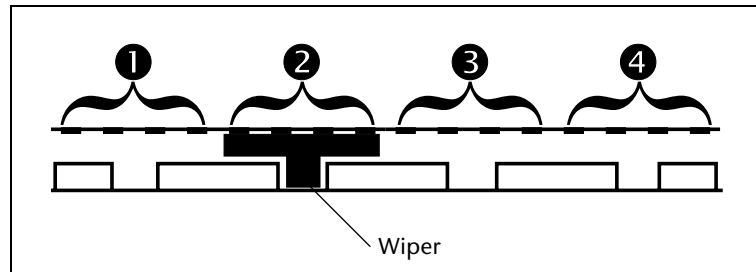

Fig. 5-5. Wiping the printheads
7. Wipe the printheads by inserting the printhead wiper carefully into the wiping station channel under the printheads you purged, lift up on the handle slightly, and pull it out straight and level side-to-side (see 2 in Fig. 5-5 below).
8. Repeat the previous step in positions **1**, **2**, **3**, and **4** as needed (see Fig. 5-5 on page 5-8).